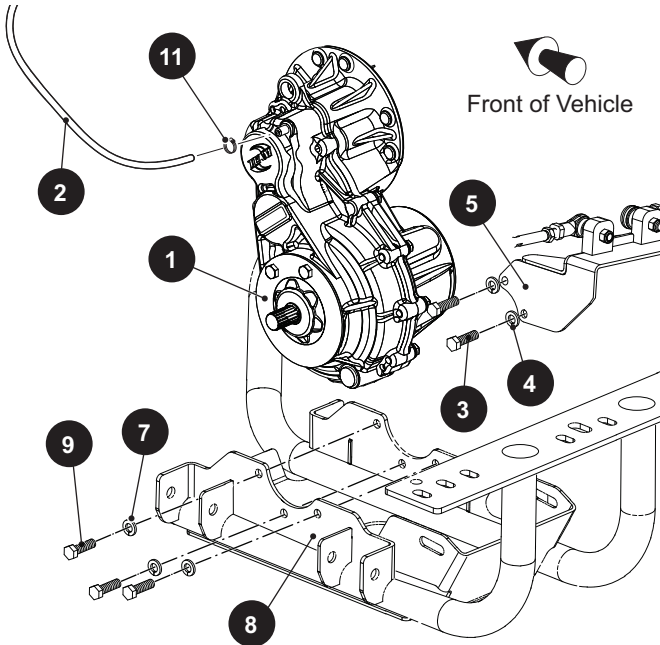

Fig. 4 IS Differential Mounting
3. Remove the clamp (11) and breather hose (2) and retain them for reuse during installation.
4. Remove the four bolts (3) and washers (4) securing the rear tie rod bracket (5) to the differential.
5. Remove the rear tie rod bracket (5) from the vehicle leaving the tie rods attached to the frame.
6. Remove the six bolts (9) and washers (7) that secure the differential (1) to the frame (8) (Ref. Fig. 4).